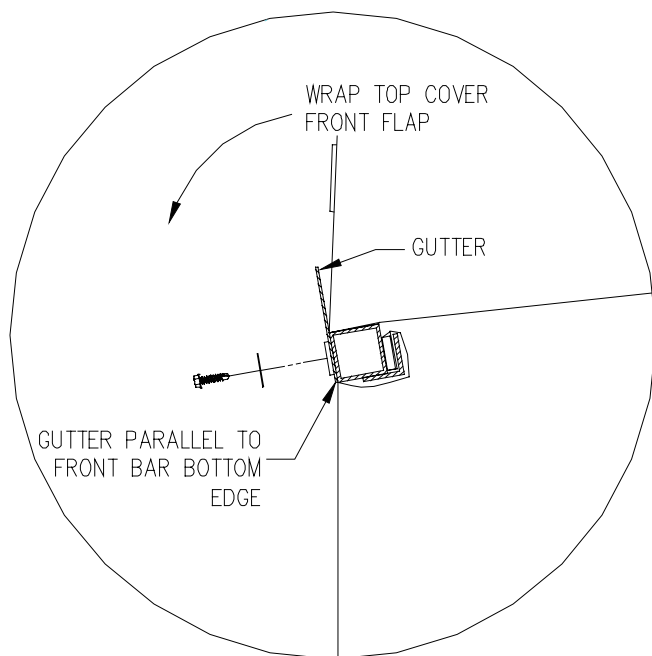

FIGURE 2
These instructions illustrate how to install a gutter assembly on a canopy style header. **(Note: gutter goes underneath canopy flap) See Figure 2**
2. Once the first tek-screw is in place, again align the gutter from side to side, parallel to the front bar bottom edge. (See Figure 2) Starting from center and going out in each direction, install the the first 2-3 screws into the holes already in the gutter strip that land on the marked locations determined in the curtain face installation instructions. Do not install screws past the this point. This makes sure that the gutter does not get misaligned and lays flat. (Note: Starting from the outside in, can create bulges in gutter plate.)
4. After all the tek-screws are installed, lay the top cover front flap with hook and loop over the newly installed gutter strip, curtain face and screws. (See Figure 2) Take care in positioning the flap so it is even along the front of the unit. Do not pull flap tight over gutter plate. It should fit correctly slightly loose and the hook and loop on flap should just cover and hide the bottom edge of gutter assembly by approximately 1/2 in (12 mm). Also, the flap should not be too loose, so adjust its position as needed.